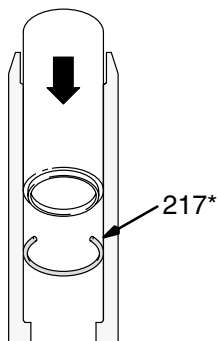

Fig. 30 02573
- Place a o-ring (17*) in the cylinder. Slide the sleeve in to the cylinder to seat the o-ring. See Fig. 30. Remove the sleeve.